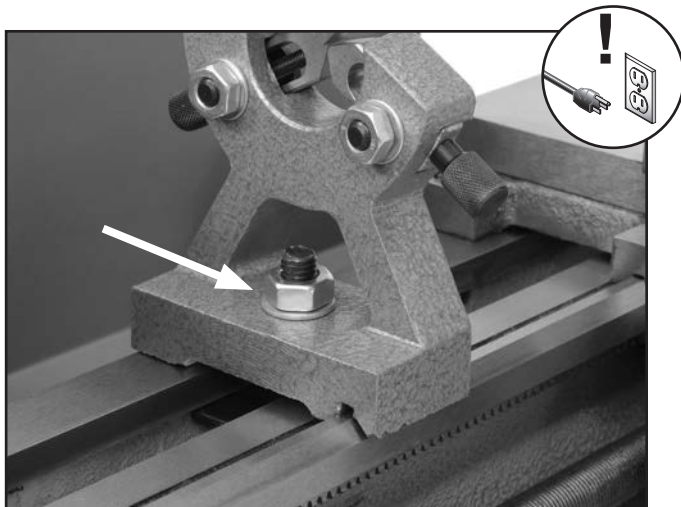

Figure 20. Installing steady rest.
2. Tighten the bolt to hold the steady rest firmly in position (see **Figure 20**).